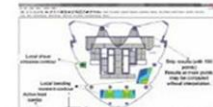

Fig. 3: Simple results. Moments and shear can be displayed along linear strips or as contours
- The second stage is to run the boundary element analysis. Any number of load conditions can be applied. Values of boundary displacements and reactions, as well as internal support reactions, are computed. The third stage comprises determining forces and deflections for internal points and displaying the results. The user can choose to view results along linear strips or as contour maps (Fig. 3). Degree of refinement, contours can be generated over the full model or over a small area.